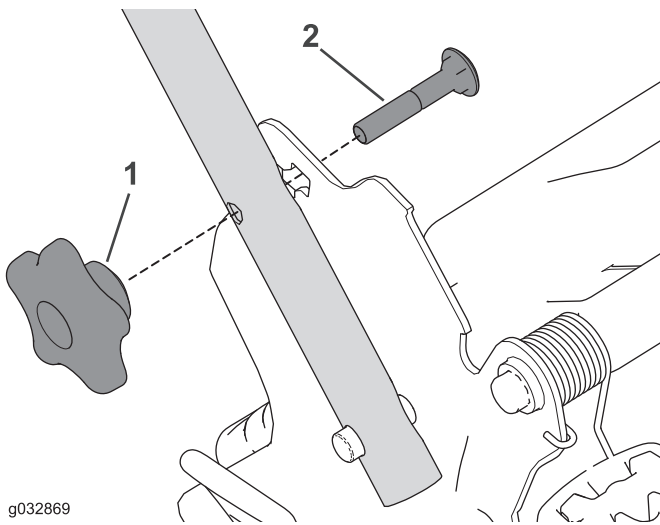

Figure 28
1. Remove and save the 2 handle knobs and 2 carriage bolts from the handle brackets (Figure 28).